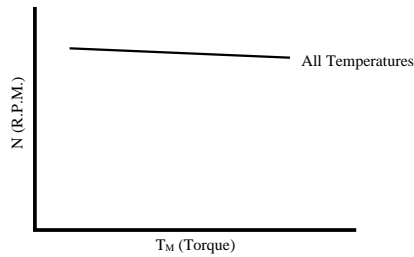

Fig. 3. r_1 Temperature Characteristics = R_a Temperature Characteristics
R_a is the copper coiled resistor of the motor and has the temperature characteristics of + 3,900 r.p.m./°C. Therefore, it is necessary to set the value of r_1 so that the relationship in the expression (7) will be satisfied at the minimum working temperature. The diffusion resistance r_3 / r_2 in the IC has the flat temperature characteristics, and if the temperature characteristics of r_1 is adjusted to that of R_a , + 3900 r.p.m./°C, the value of the second term ($r_1 r_2 / r_3 - R_a$) of the expressions (4) and (5) shows the flat temperature characteristics and the torque characteristics of the motor speed becomes constant without depending on a temperature. Fig. 2 and Fig. 3 show this relationship.